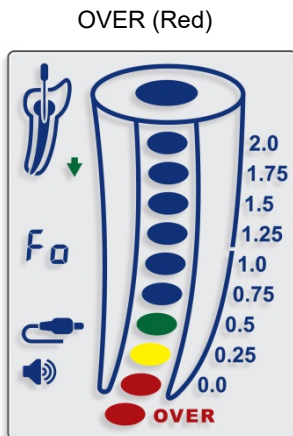

Fig. 11
**!** The red **OVER** indication accompanied by frequent beeps indicates that the file tip have progressed beyond the foramen into the periapical region - 'Foramen over-instrumentation' (Fig. 11).